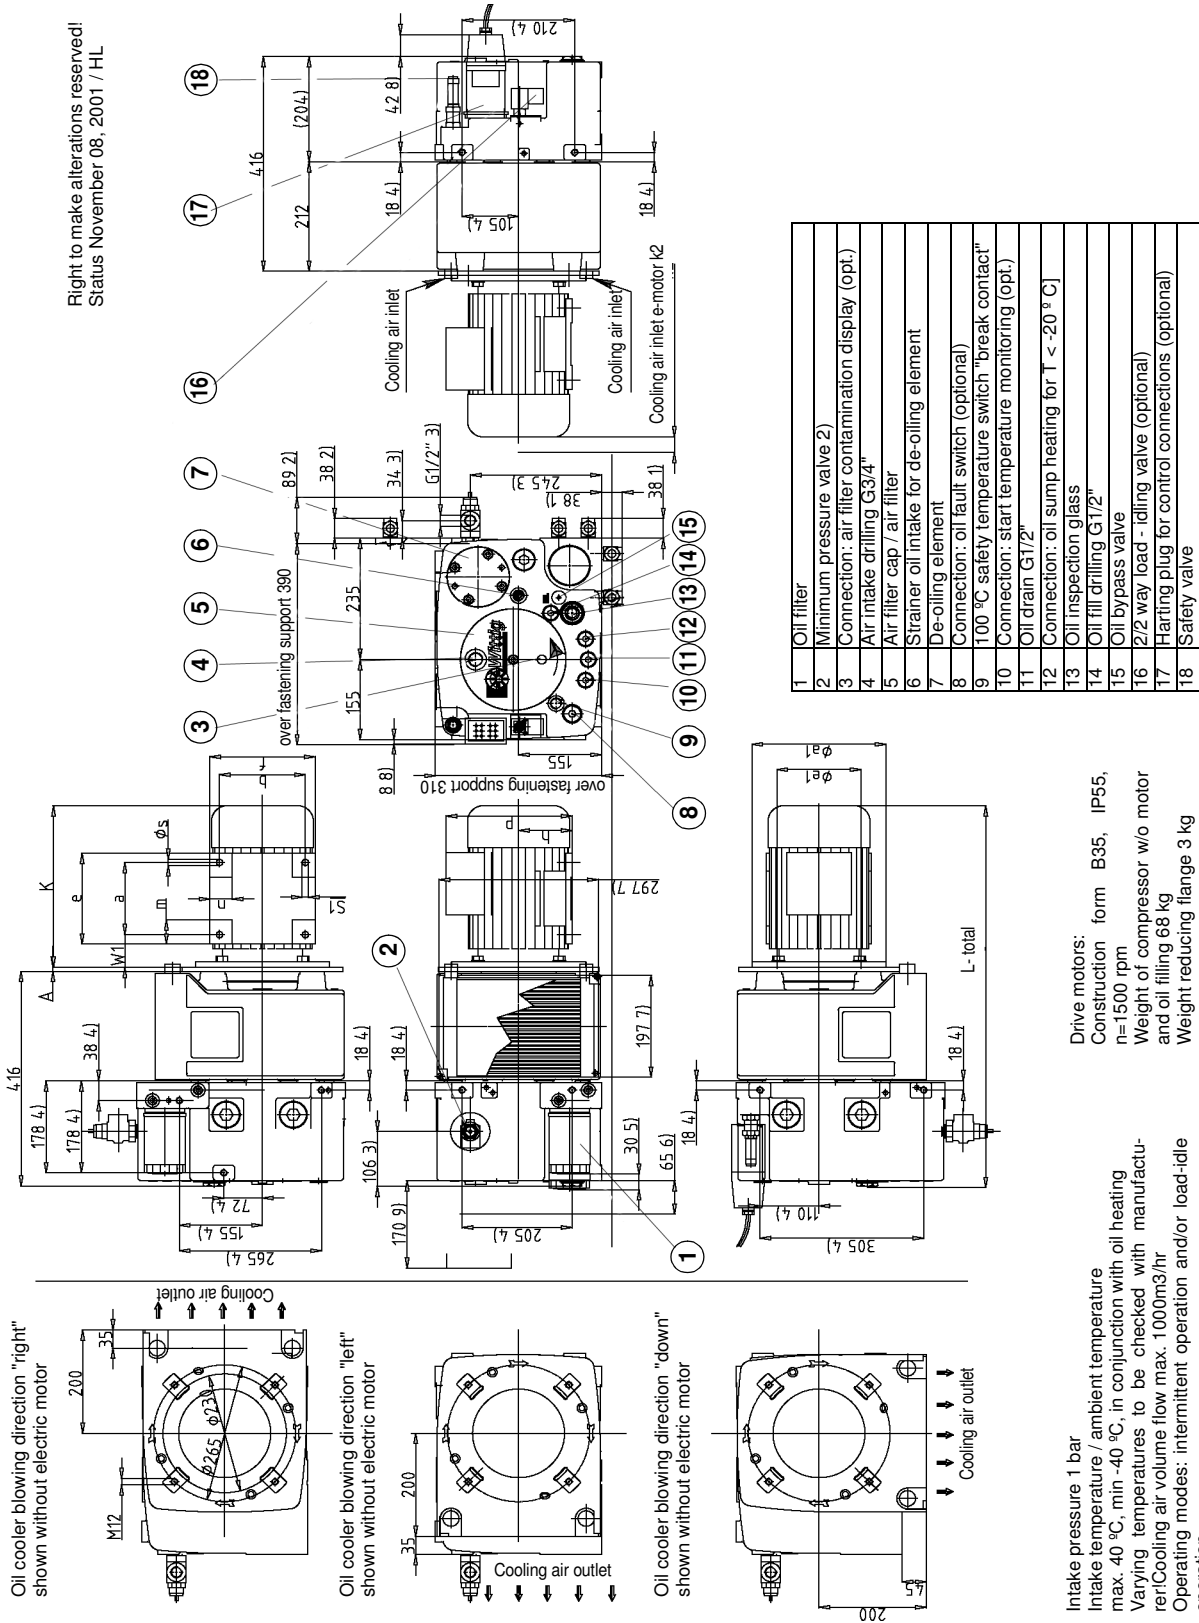

Figure 1.2 Dimensions for oil injection rotary compressor - type ROL 190/280/400/500/M
**Index for Figure 1.2**
**Dimensions table for Figure 1.2**